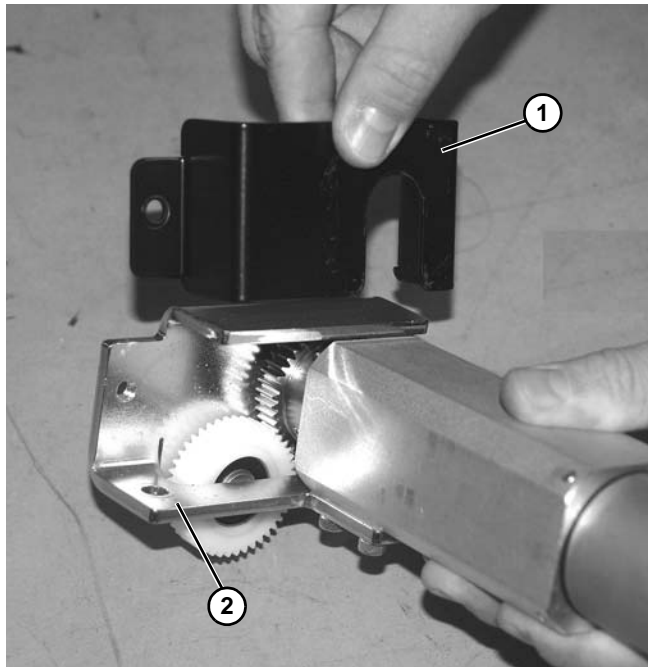

Figure 59
5. Remove the cover (Figure 59, item 1) from motor mounting bracket (Figure 59, item 2).